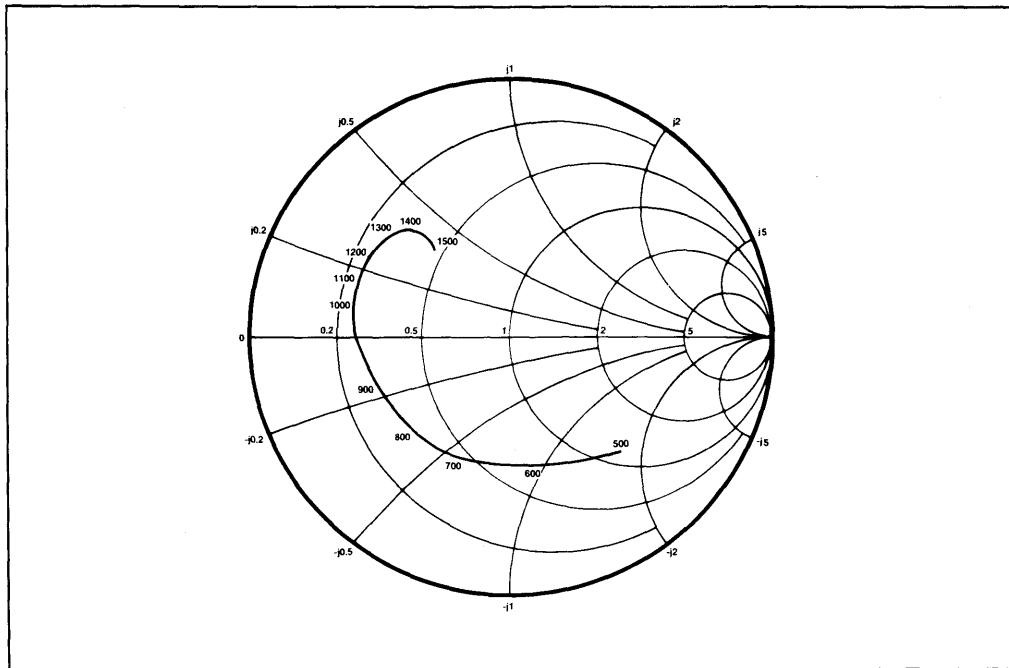

Fig.4 Typical input impedance. Test conditions: supply voltage -5.2V, ambient temperature 25°C, frequencies in MHz, impedances normalised to 50 ohms.
4. The input impedance of the SP8610/11 is a function of frequency. See Fig. 4.